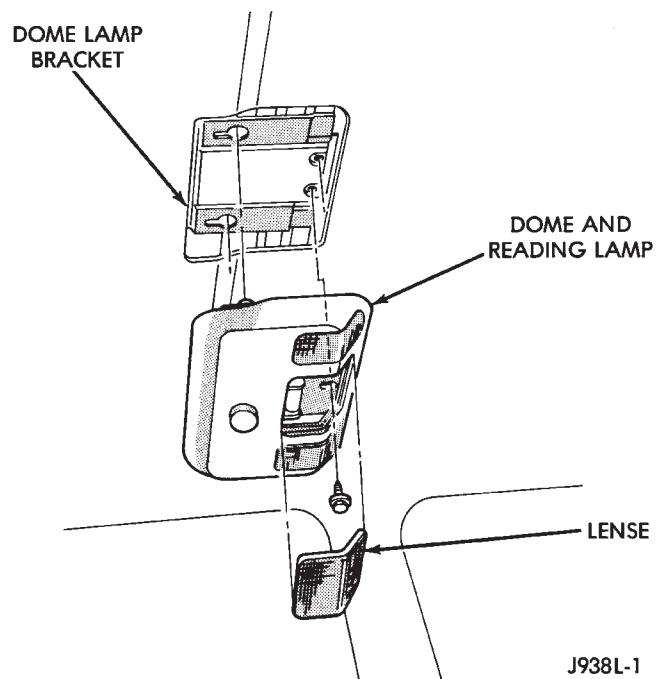

Fig. 9 Remove/Install Dome Lamp Housing
(1) Remove 1 screw attaching the dome lamp housing to the roof (Fig. 9).
(2) Push the housing toward the front of the vehicle to disengage retainers.
(3) Unplug the harness connectors.